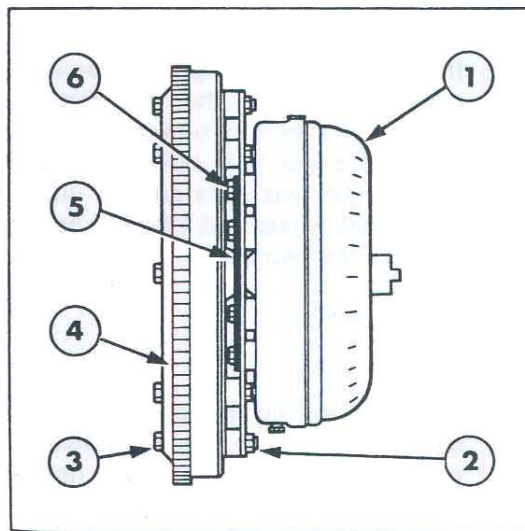

Figure 66
Inspect the splines Figure 66 on the converter hub for wear or damage and the weld joints for cracks. If the hub is worn or damaged and/or the weld joints cracked, a new converter should be installed. A new drive plate should also be installed if it is warped.
The torque converter, Figure 66, is a welded unit and cannot be disassembled. The only maintenance performed on the converter, other than the stall test covered in Chapter 3, is cleaning and visual inspection. A commercial torque converter cleaner may be used to clean the converter. However, if a commercial cleaner is not available, the converter should be cleaned as outlined below.
1. If not previously drained, remove the drain plug, Figure 66 and drain as much oil as possible from the converter by tilting the converter in all directions.